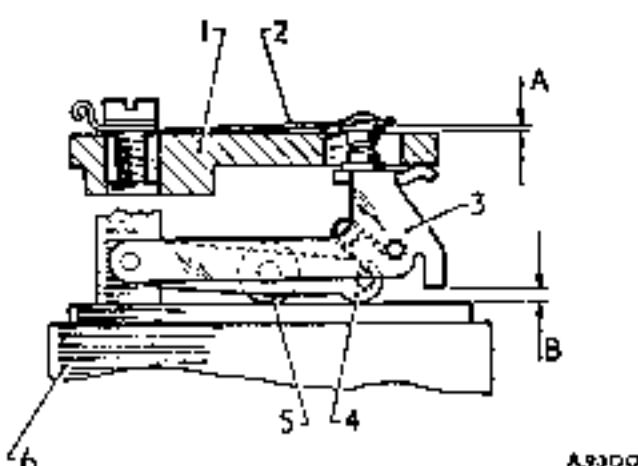

Fig. D.5
the pedestal (A) (Fig. D.5) with a feeler gauge, bending the stop finger beneath the pedestal, if necessary, to obtain a lift of $.035 \pm .005$ in. (.9 ± .13 mm.).
34. Check the gap between the rocker finger and coil housing (B) (Fig. D.5) with a feeler gauge, bending the stop finger, if necessary, to obtain a gap of $.070 \pm .005$ in. (1.8 ± .13 mm.).